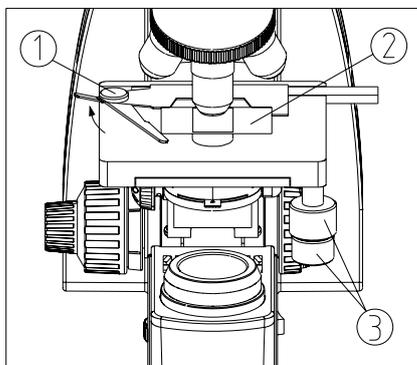

Fig.9
2. Loosen the wrench ①, and clamp the slide ② by the clips while the cover glass faces up (see Fig. 9).
3. Rotate the X and Y-axis knob ③. Move the specimen to the center (alignment with the center of the objective).